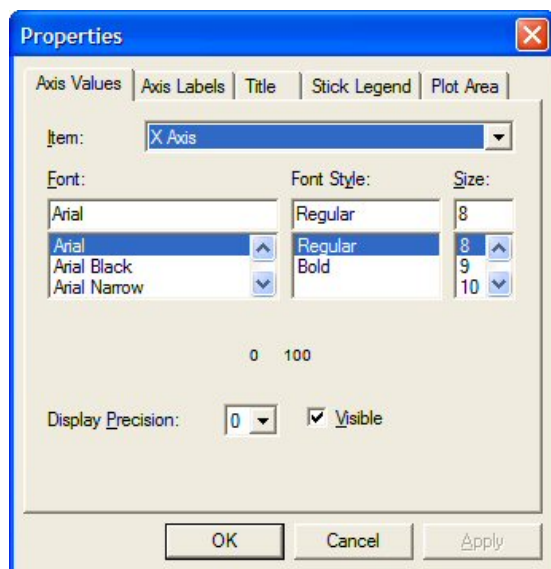

Figure 5. Ship Track Properties Dialog
- How do I manually set the ranges for the plot axes? Right-click the ship track plot and click on **Properties** (Figure 5). Click the **Plot Area** tab. Manually enter values for **Left**, **Right**, **Top**, and **Bottom**. On this property page, you may also change the font, turn on or off the grid lines and set their style, and change the aspect ratio method. Click **OK**.